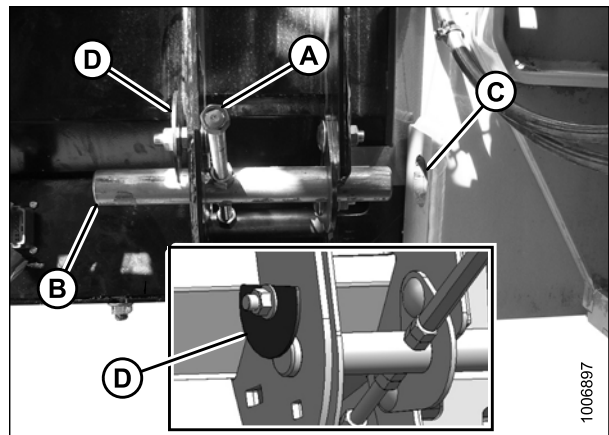

Figure 5.28: Feeder House Lock
11. Move support channel (A) according to measurement in Step 7, page 65 to achieve proper alignment of locking pin and feeder house receptacle. Refer to Figure 5.28, page 64.